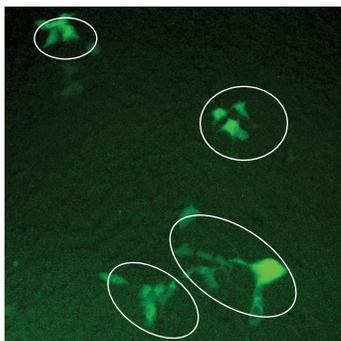

Figure 6. Example of individual colonies in HEK293T cells 72 hour post-transduction. Four colonies are circled. Imaged at 40x magnification.
8. Choose one well in the Destination Plate for counting fluorescence-expressing colonies of cells. This should be a well in which individual colonies of cells can be visualized and counted. Count each multi-cell colony as one transduction event, as the cells have been dividing over the culture period (**Figure 6**). Calculate the average number of fluorescent-positive colonies from the same destination well of each replicate.